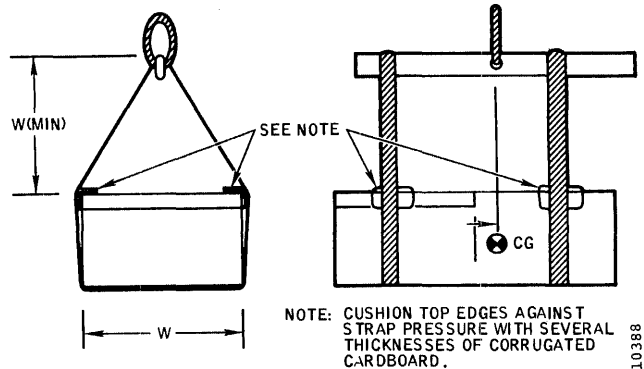

Figure 2-2. Hoisting Unit with a Lifting Bar
11. If a lifting hoist is available, raise one end of the unit and slip the nylon webbing lifting straps under the unit. The loop diameter of the lifting straps must be at least the minimum shown in Figure 2-2, and a cradle (preferable) or lifting bar must be employed.